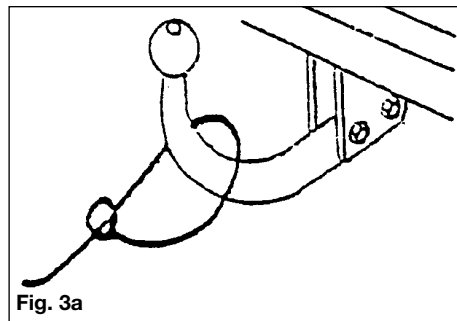

Fig. 3a
- Fixed ball: Loop the cable around the neck of the towball in a single loop only. See figure 3A and 3B.